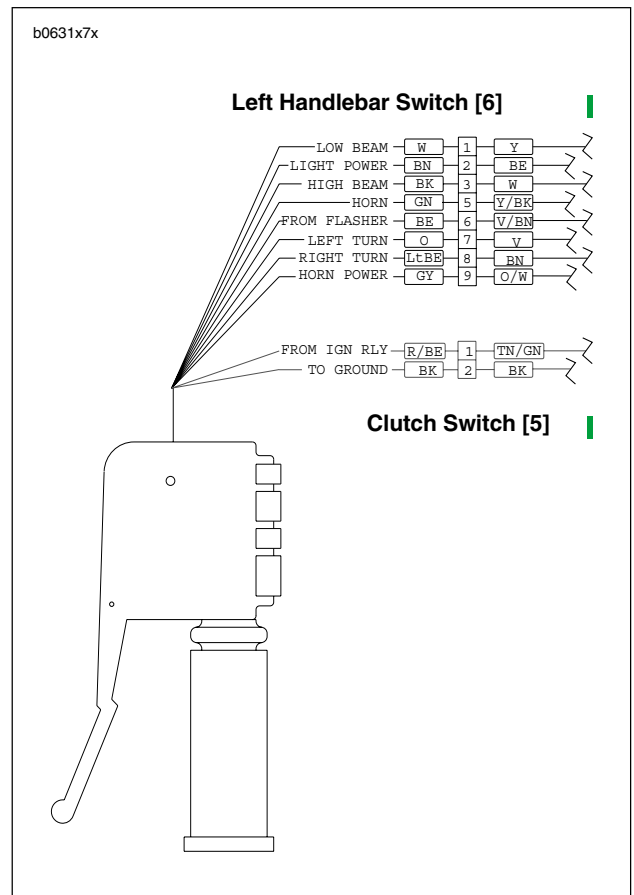

Figure 7-71. Left Handlebar Switch Connection
5. See Figure 7-71. Cut as many cable straps as necessary to access left handlebar switch connector [6] along right side frame tube. Detach connector [6] from wiring harness.
2. See Figure 7-71. Route switch housing wiring harness between front forks and along right side frame tube. Attach connector [6] and, if necessary, connector [5] to wiring harness. Fasten wiring harness to frame with **new** cable straps.